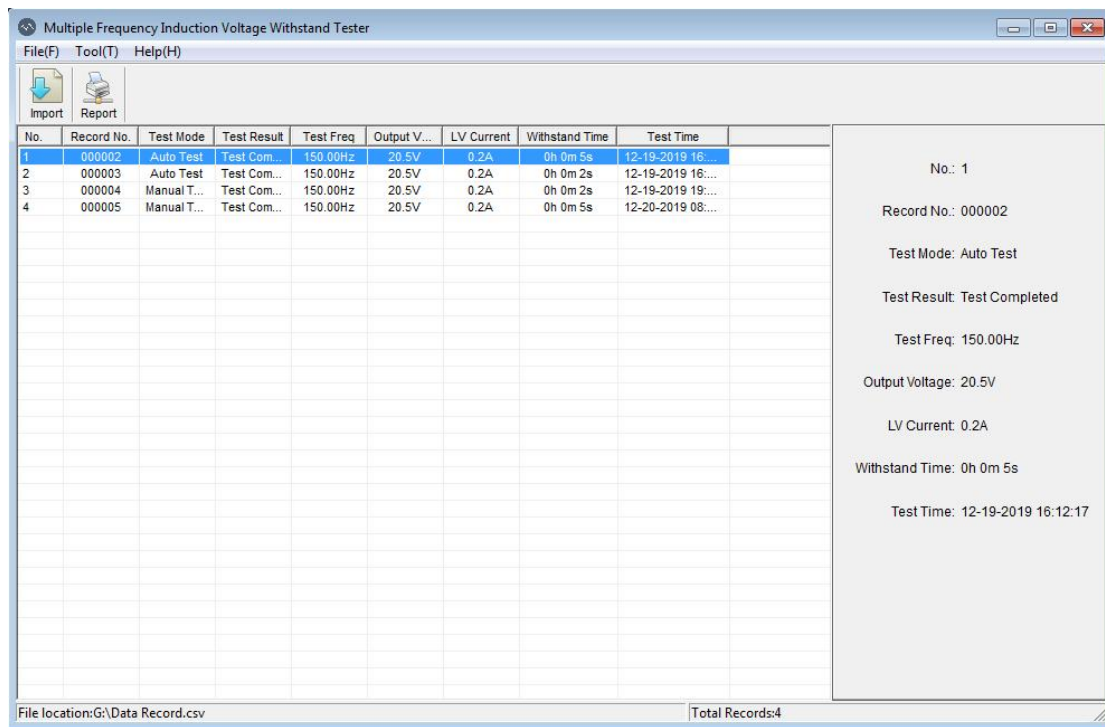

图25
3.Select the file to transfer out,File name is "Data Record. CSV".Click "open" and the interface is as shown in the figure below. The left side is the recorded test record, and the right side is the specific content of the selected item, as shown in Figure 25